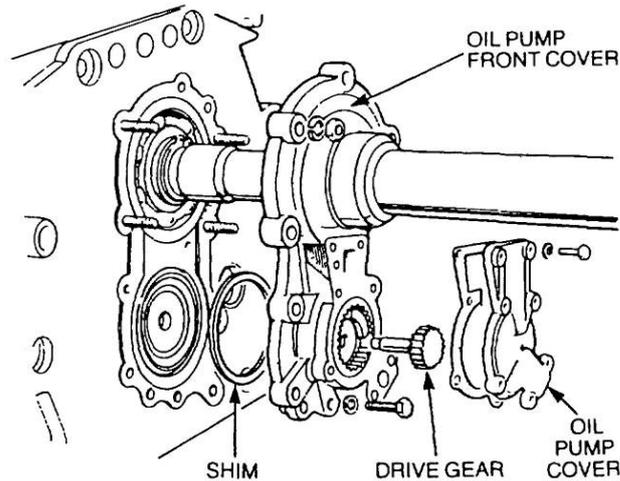

Figure 85 Installation of the Oil Pump Front Cover
- i. Ensure the shim is installed on the counter-shaft front bearing; fit the oil pump front cover and a new gasket (Figure 85). Install the oil pump front cover retaining lock-washers, nuts and bolts, but do not tighten at this stage.